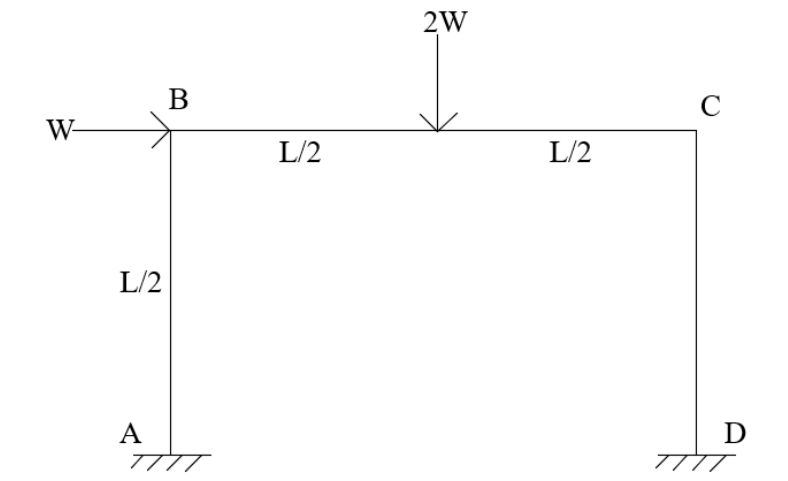

Fig 4
- 7 a) Determine the shape factor of T- Section with flange width 120 mm. Depth of web is 110 mm. Thickness of flange and web is 10 mm. If the value of yield stress is 250 N/mm^2 , find the plastic moment capacity of the section (10)
- b) Determine the deflection at free end of a beam in the shape of a quadrant of a circle in plan, fixed at one end and free at the other, with a point load at the free end. (10)
- 8 Derive the expressions for bending moment and twisting moment at any section in a circular ring beam supported by a no: of columns placed at regular intervals. (20)
- 9 Determine the value of collapse load for the portal frame shown in Fig 4. All the members have the same plastic moment of resistance. (20)